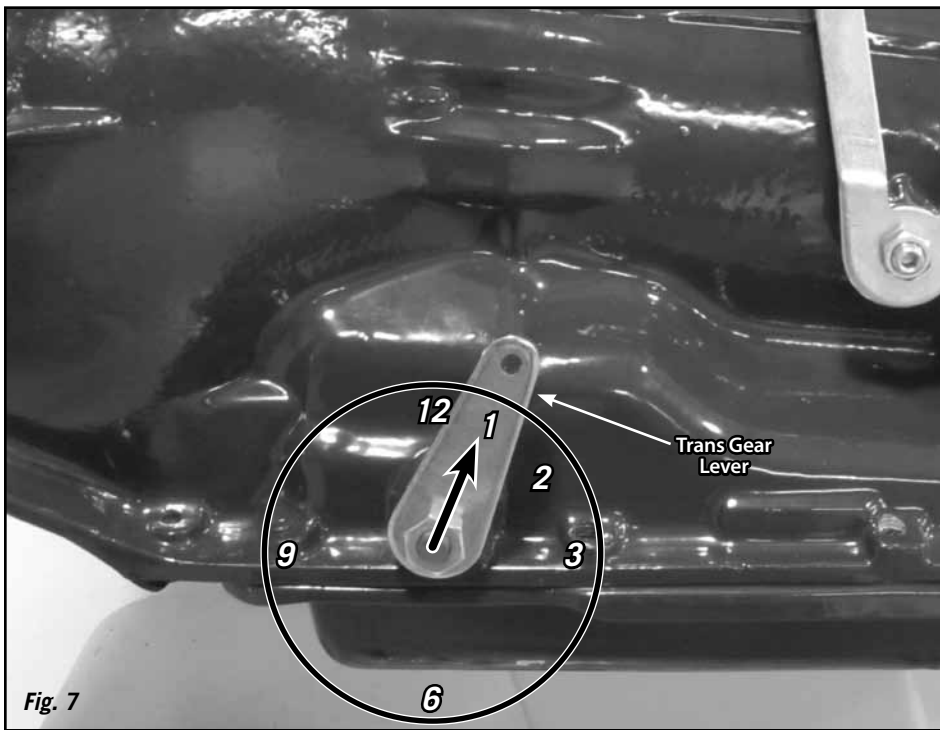

Fig. 7
Step 11: Install the trans gear lever onto the transmission and secure with your original nut. Place the trans gear lever in the Park position with the top of the lever pointing up and slightly towards the rear of the transmission, at about the 1:00 position. **Fig. 7**